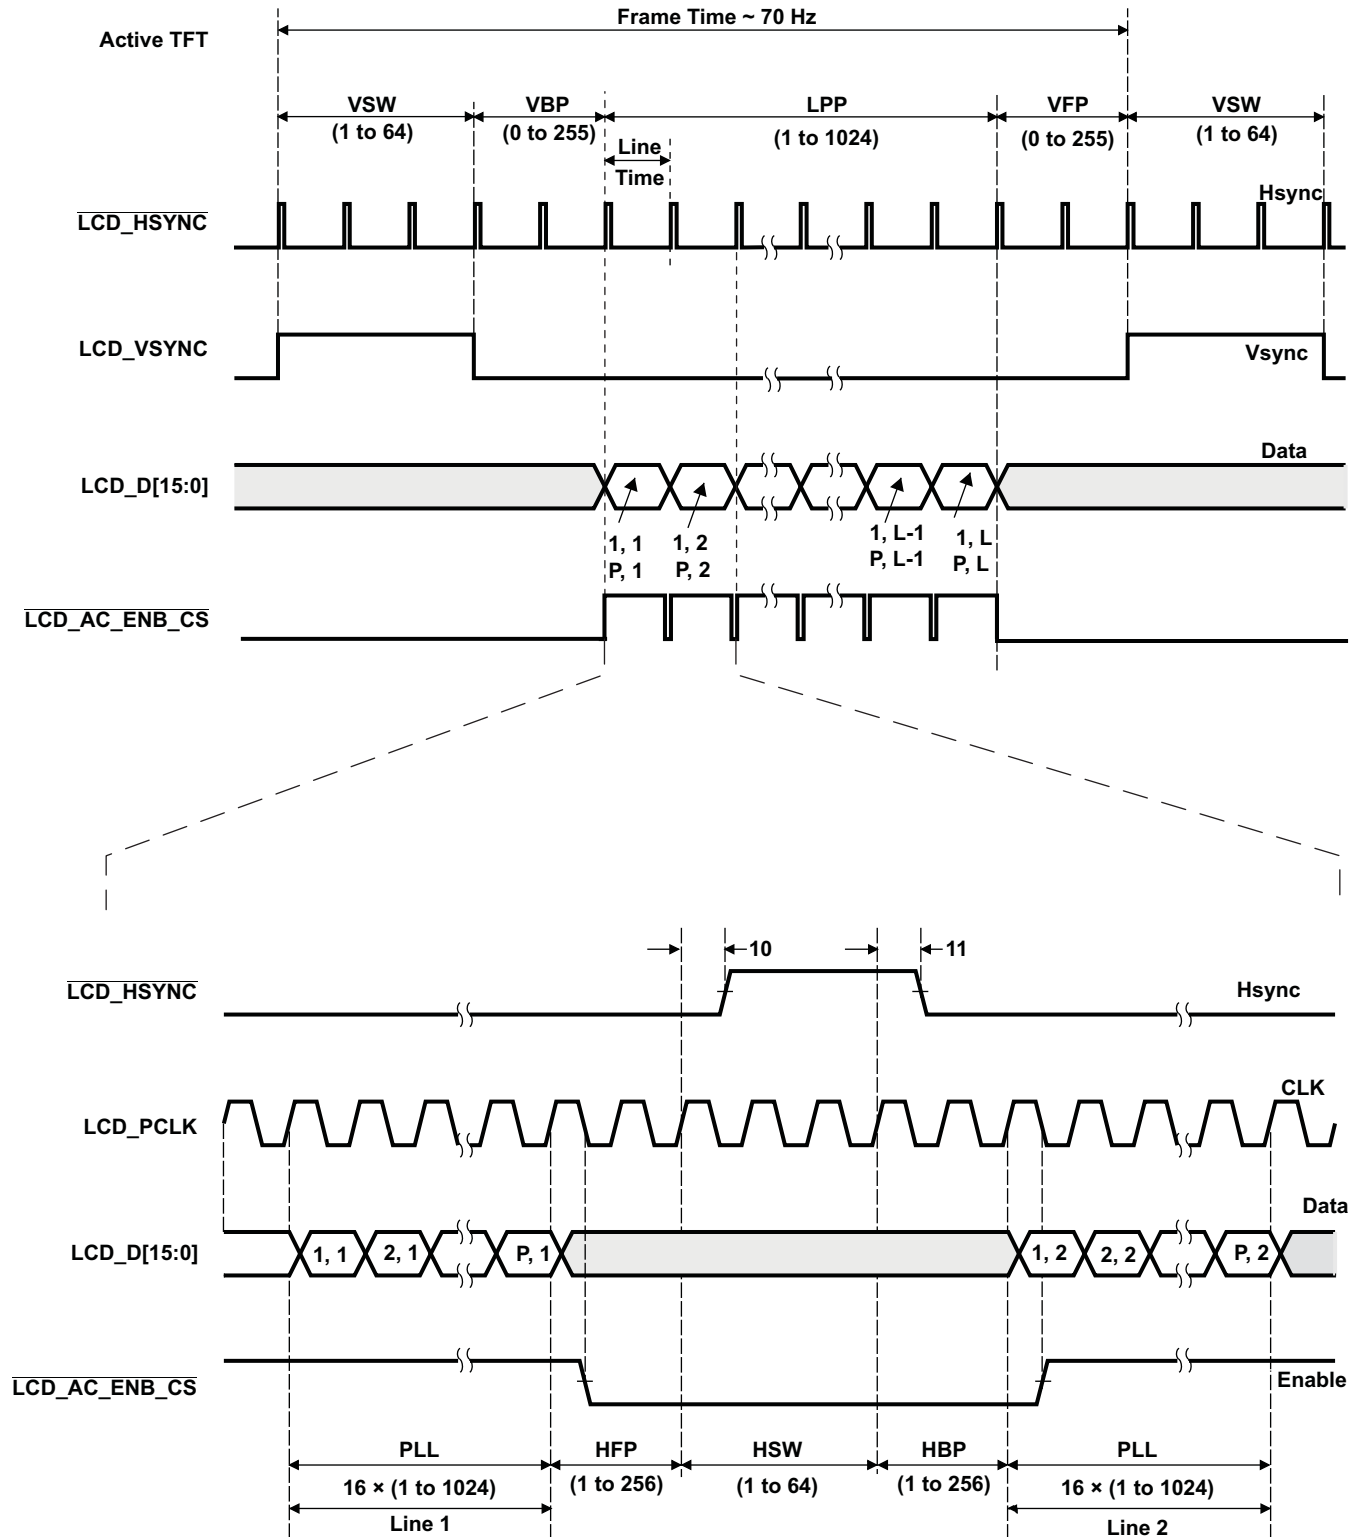
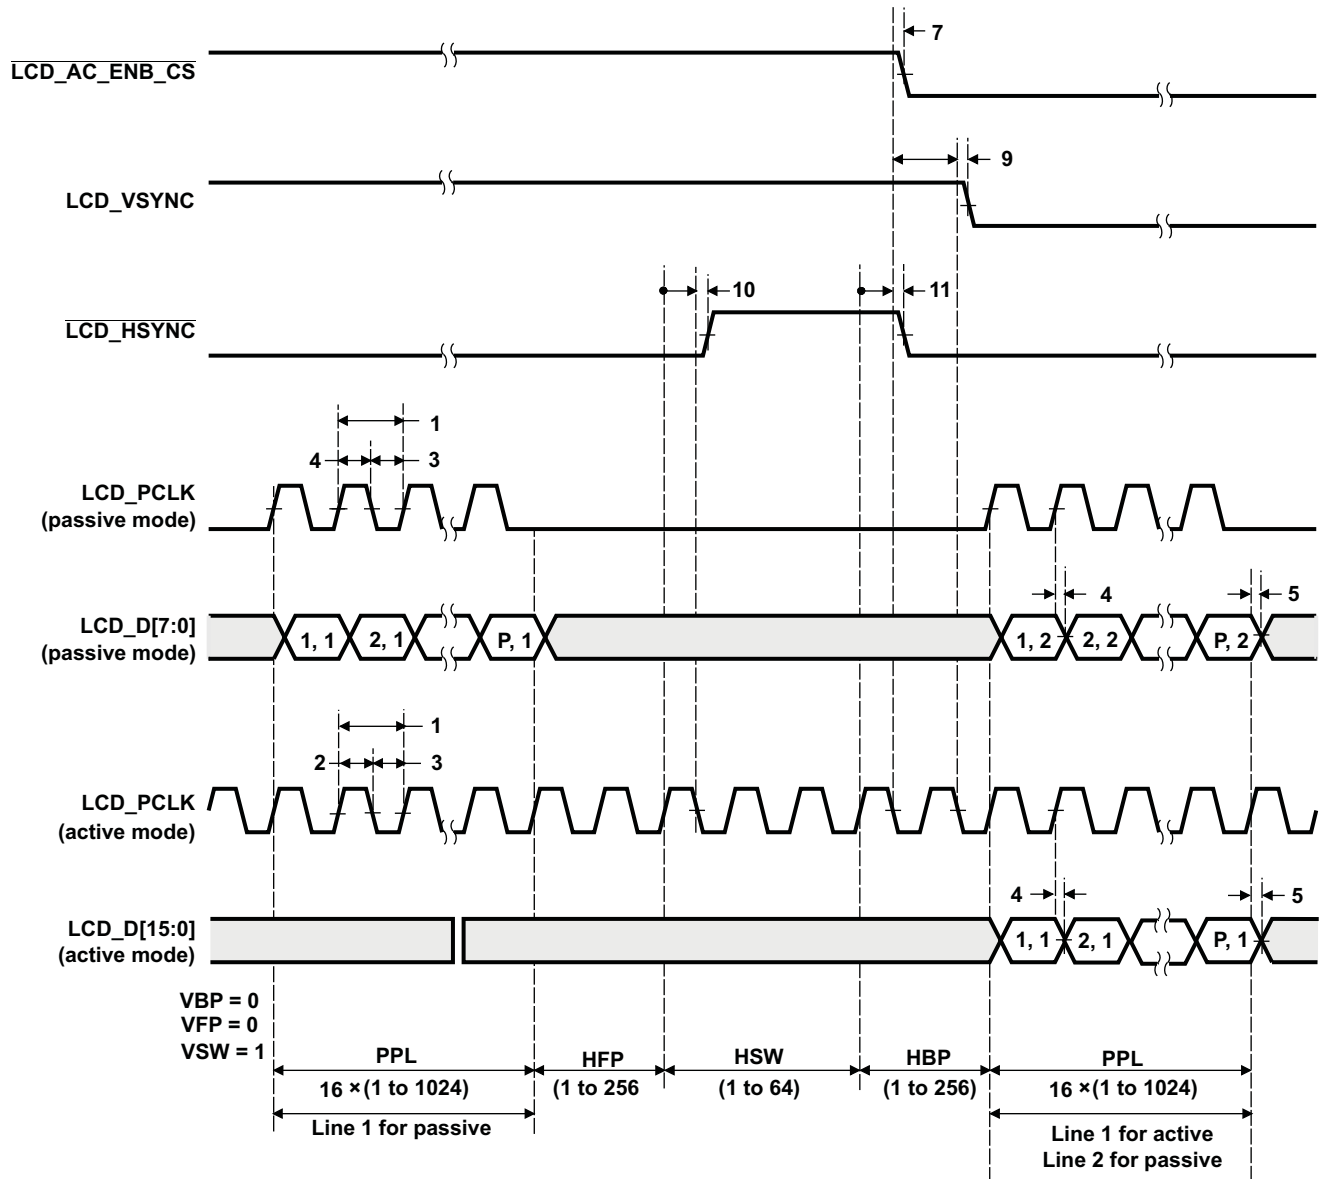

Figure 6-56. LCD Raster-Mode Active
Figure 6-59. LCD Raster-Mode Control Signal Deactivation
See Figure 6-55 through Figure 6-59
(1) S2 = SYSCLK2 cycle time in ns
(2) The activation edge of the control signals LCD\_VSYNC and LCD\_HSYNC may be programmed to either the rising or falling edge of the pixel clock through the LCD (RASTER\_TIMING\_2) register. In Figure 6-56 through Figure 6-59, all signal polarity and activation edges are based on the default LCD (RASTER\_TIMING\_2) register settings.